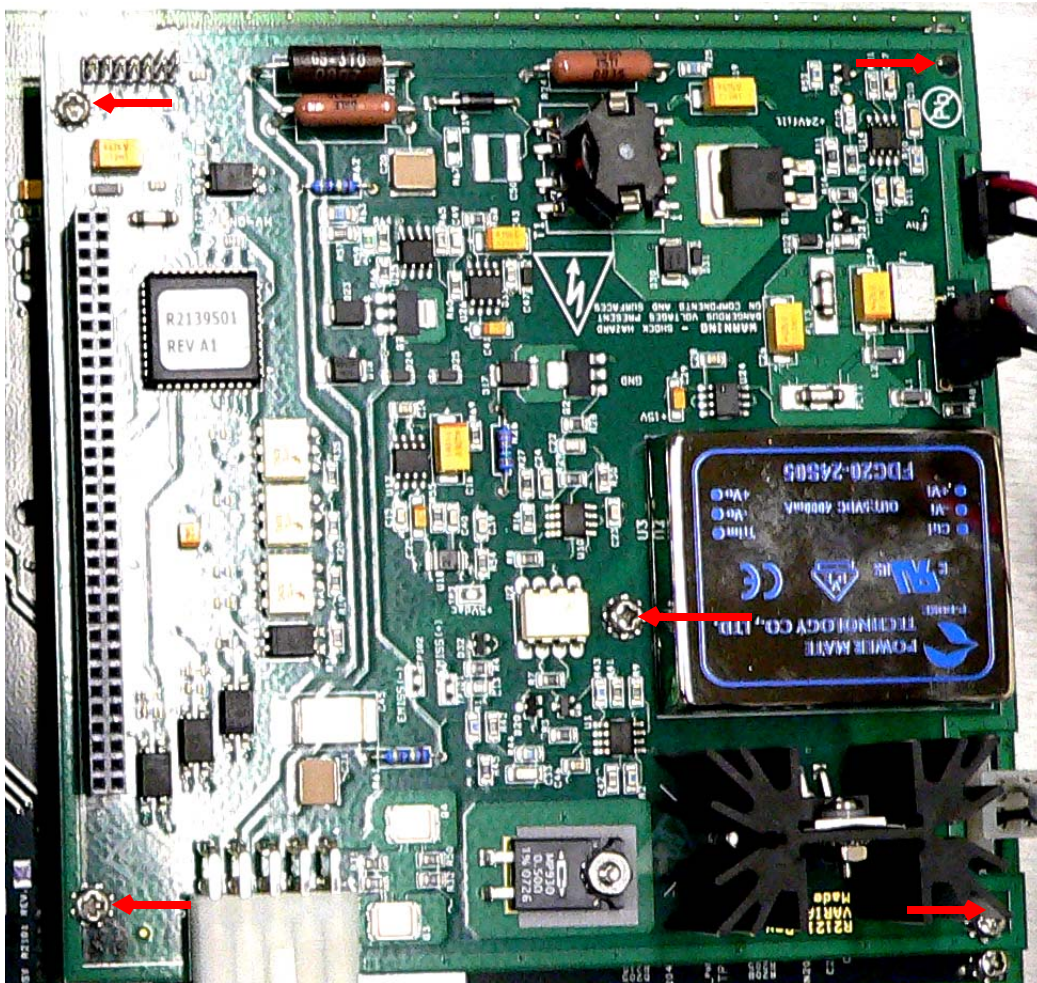

Figure B-33 Mounting Screws
5. Remove the five (5) Philips head screws and washers (Figure B-33).